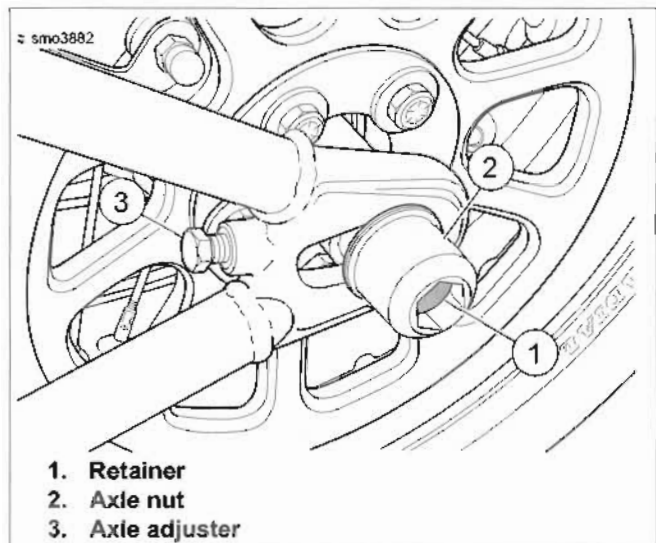

Figure 2-42. Axle Adjusters: FXSB
2. **FXSB:** See Figure 2-42. Loosen rear axle nut (2).
3. On side of rear fork that has longer distance from pivot bolt to axle center, turn nut on axle adjuster (3) counter-clockwise to shorten distance. Adjust axle until left and right side alignment measurements are equal.